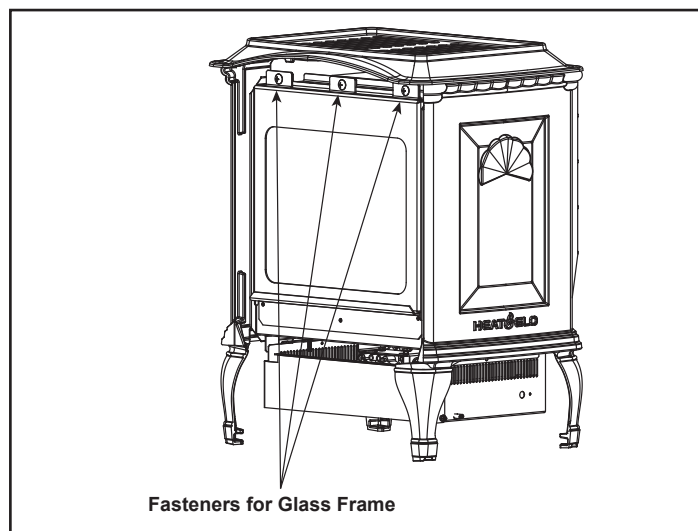

Figure 10.2 - Remove Glass Frame
2. Using a Phillips screwdriver, remove the three screws on the front glass assembly and take the glass assembly off the appliance. See Figure 10.2.